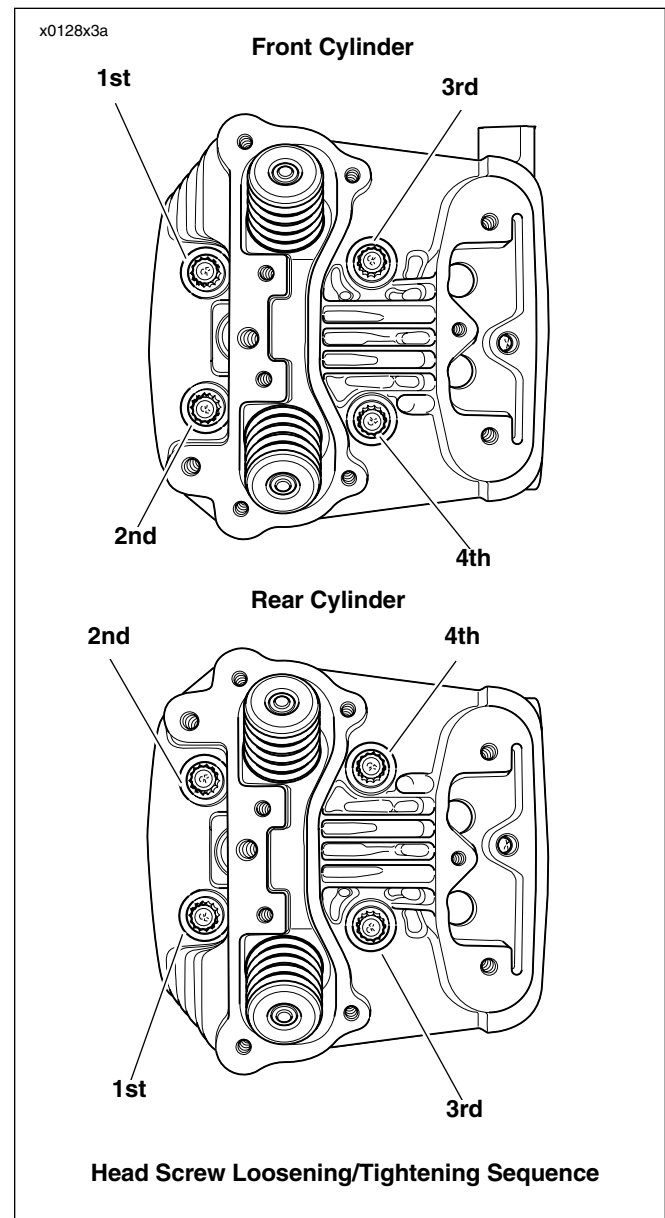

Figure 3-82. Head Screw Loosening/Tightening Sequence
7. See Figure 3-82. For each cylinder head, start with screw numbered one, as shown. In increasing numerical sequence (i.e. – 1, 2, 3 and 4):